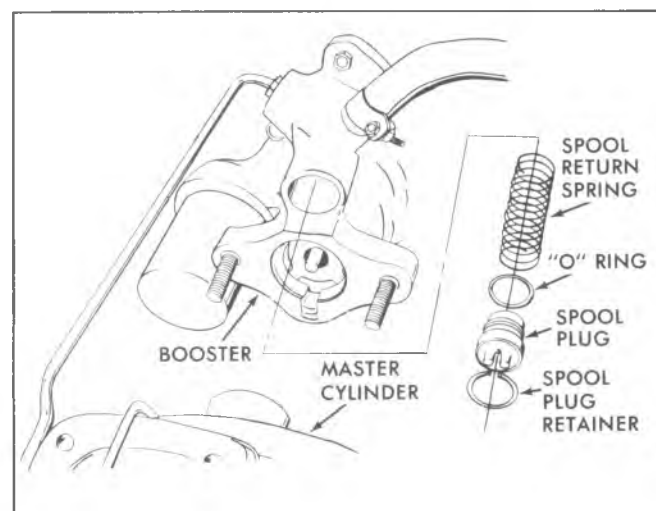

Fig. 5-9E--Spool Valve Plug Removal
17. Push spool valve plug in and use a small screwdriver to remove retaining ring (Fig. 5-9E).
2. Install "O" ring and spool valve plug (fig. 5-9E).